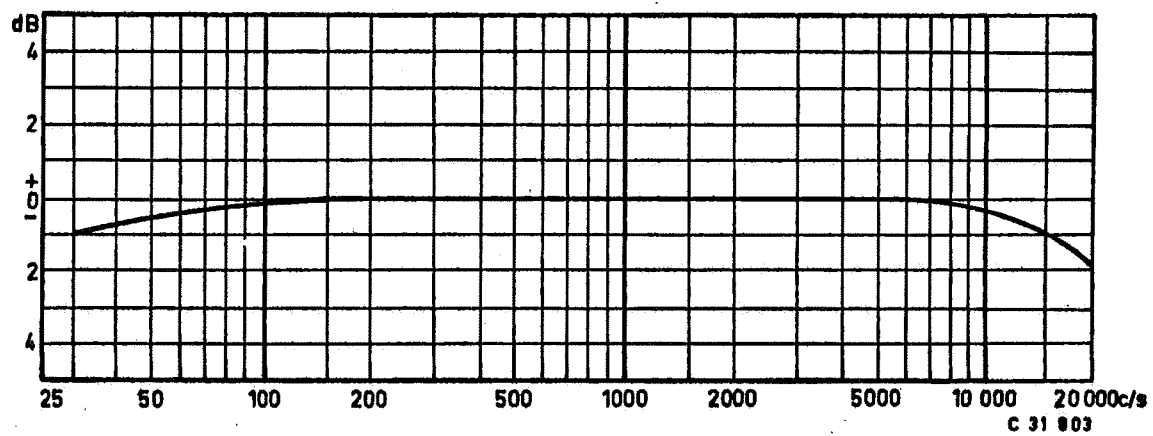

Fig.3
- The values measured are shown in the characteristic of fig. 3.